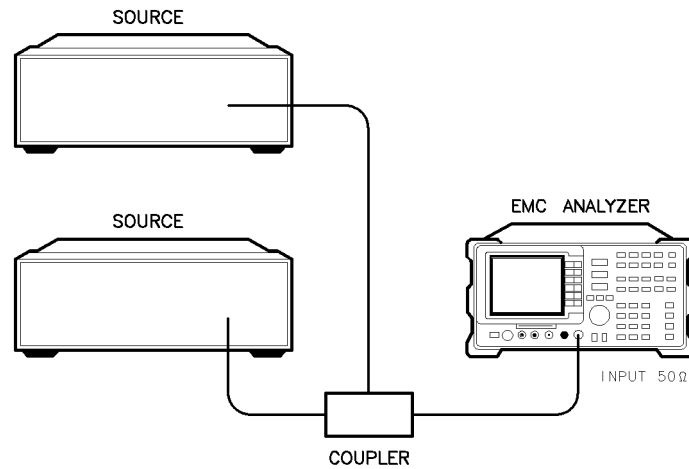

Figure 7-32. Set-up for obtaining two signals.
1. Connect two signal generators to the input of the analyzer as shown in Figure 7-32. Set one signal to 300 MHz, 107 dB μ V (0 dBm) and the other to 305 MHz, 65 dB μ V (-42 dBm). Increase the amplitude of the 305 MHz signal if it is masked by the noise level of the 300 MHz source.